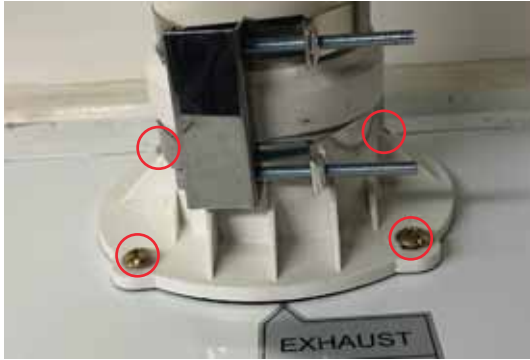

Figure 123
7. Loosen 2 screws and remove ignition transformer (Fig.123, Item 1) and save for reinstallation.
8. Unclip exhaust sensor connector (Fig.123, Item 2).